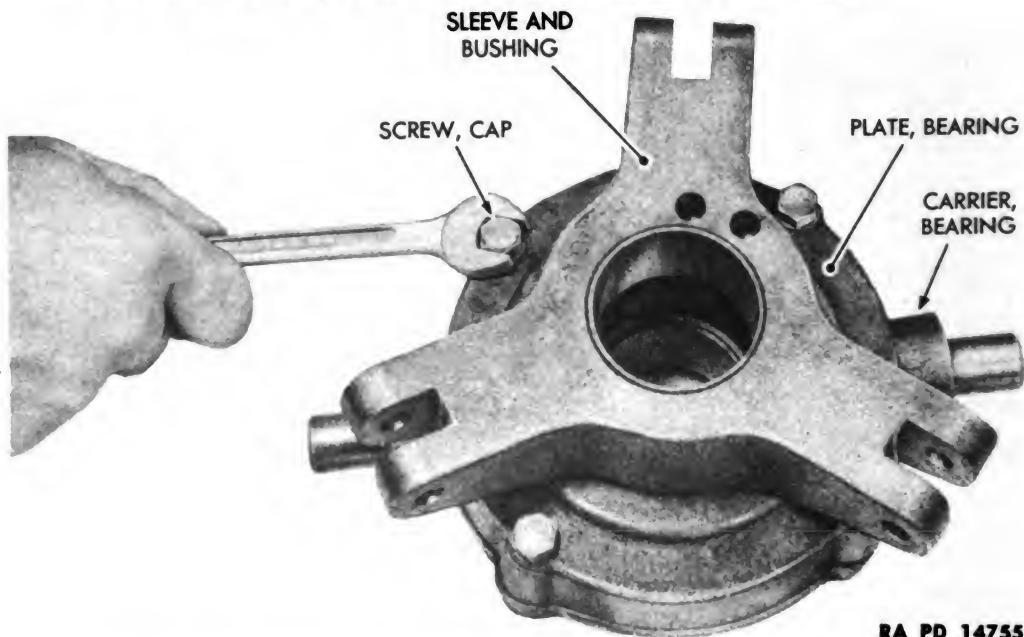

Figure 24 – Bearing Carrier Removal from Bearing Plate
(12) **REMOVE BEARING CARRIER FROM BEARING PLATE** (fig. 24).**WRENCH, open-end, $\frac{3}{8}$ -in.****WRENCH, open-end, $\frac{1}{2}$ -in.**
(8) INSTALL BEARING CARRIER (fig. 24).